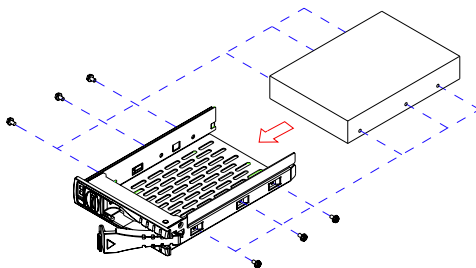

Figure 2.11: Installing a SATA HDD
4. Fix a 3.5" SATA HDD to the proper location in the tray by fastening the screws provided. (Refer to Figure 2.11)